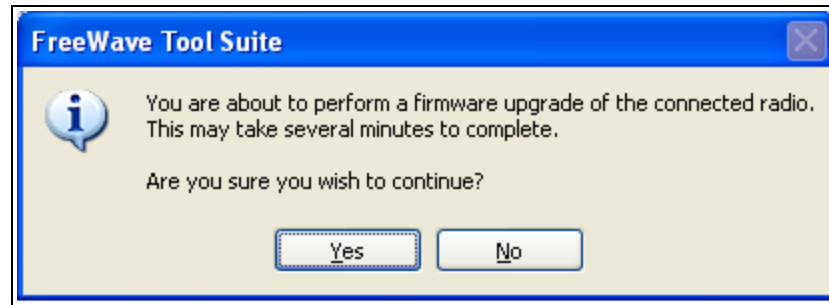

Figure 33: Continue Upgrade Message
8. Click **Yes** at the prompt to continue. Figure 33